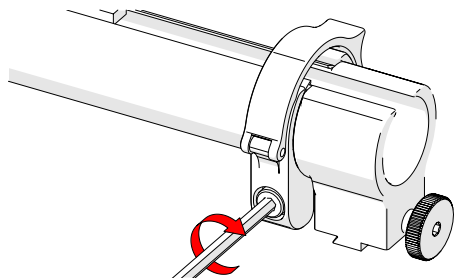

Fig. 156 - Tighten clamp screw
4. Tighten the clamp screw (Fig. 156).